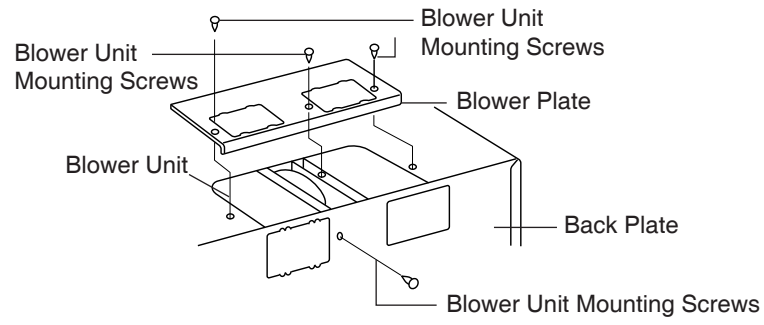

Fig. 1-2-4
- (5) Replace blower plate onto the product. Secure blower unit with two screws, one through the blower plate, and the other through oven back plate. Secure blower plate onto the product top with two screws. (Fig. 1-2-4)